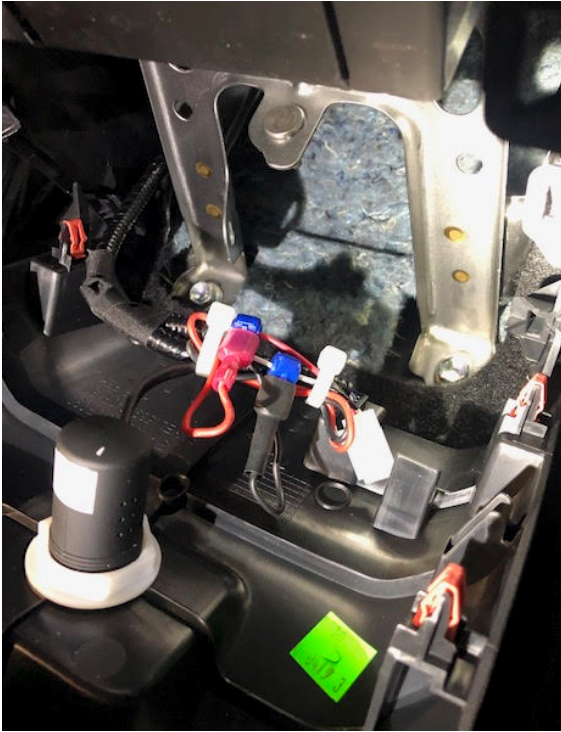

Figure 10
19. Secure the power & ground wire bundle with the supplied 8" zip ties to the factory wire harness as shown. See Figure 10.